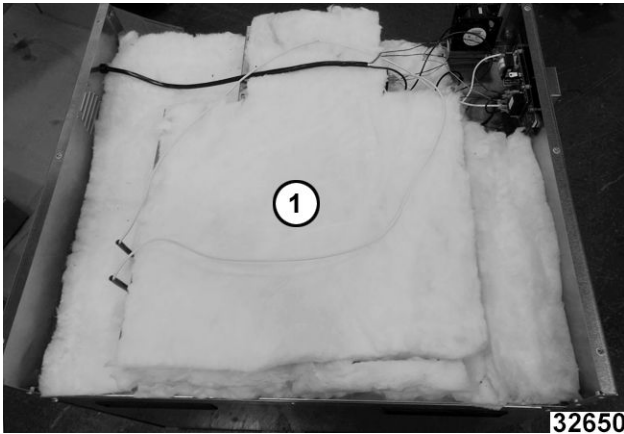

Fig. 11
2. Remove insulation (1, Fig. 11).